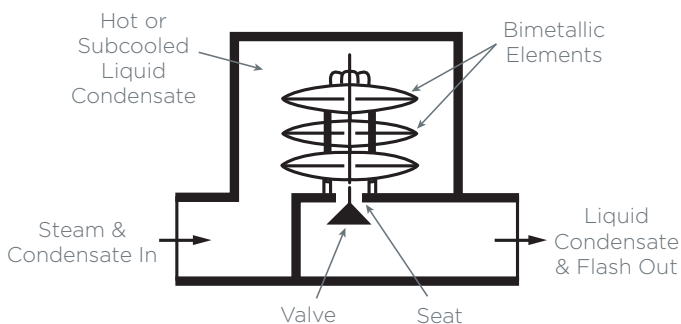

Figure 6. Thermostatic Steam Trap with a Bimetallic Element
**Bimetallic traps.** Bimetallic traps rely on the bending of a composite strip of two dissimilar metals to open and close a valve. Air and condensate pass freely through the valve until the temperature of the bimetallic strip approaches the steam temperature. After steam or relatively hot condensate heats the bimetallic strip and causes it to close the valve, the trap remains shut until the temperature of the condensate cools sufficiently to allow the bimetallic strip to return to its original shape and thereby open the valve. Bimetallic traps can fail in either the open or closed position. The configuration of a bimetallic steam trap is shown in Figure 6.